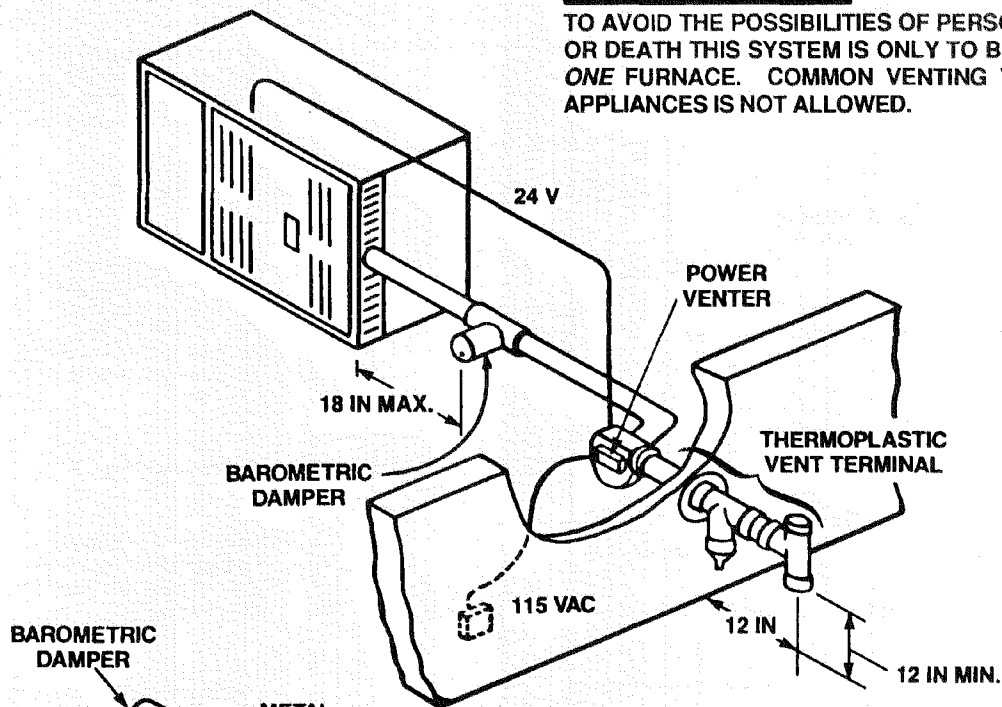
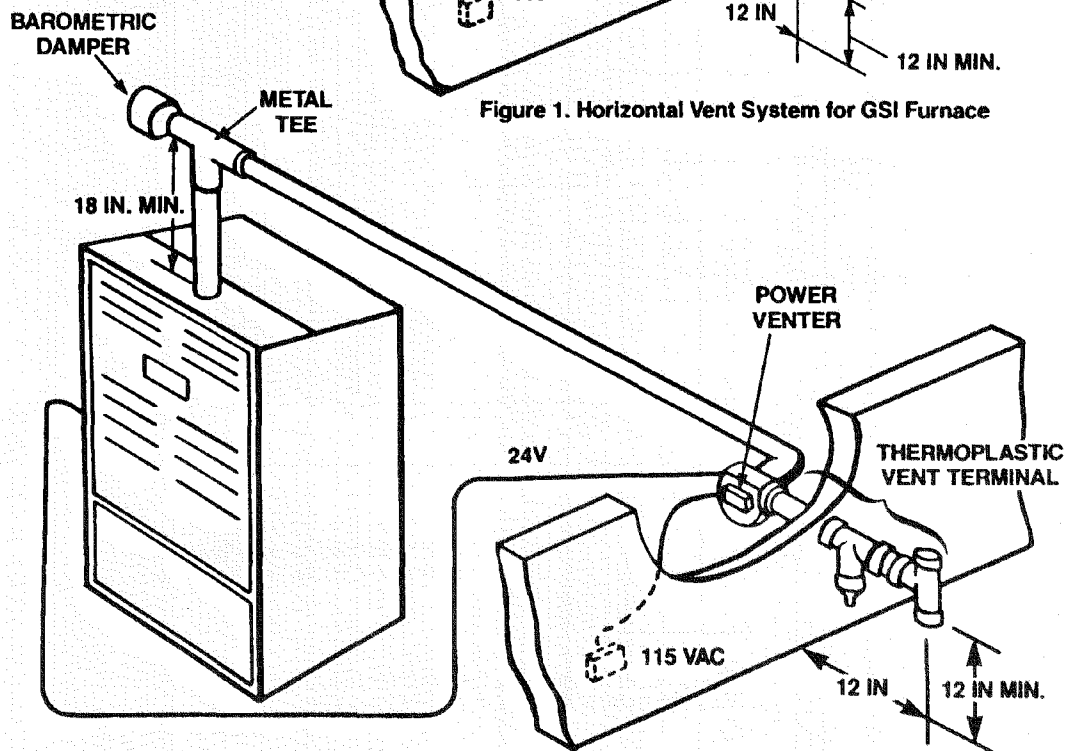

Figure 1. Horizontal Vent System for GSI Furnace
Figure 2. Horizontal Vent System for GUI/GHI Furnaces
Some installations may require this appliance to be horizontally-vented directly through a side wall. When this occurs, the instructions listed below must be followed in order to insure safe and reliable operation. A completed horizontal vent system for a horizontal furnace is shown in Figure 1, while
the upflow furnace's horizontal vent system is shown in Figure 2. When properly installed, the vent extending from the furnace to the power venter is under negative pressure, and the furnace operates as a Category I appliance.
3. Install the metal flue pipe and the single-acting barometric damper as shown in Figure 1 for horizontal furnaces or Figure 2 for upflow furnaces. The damper must connect to a horizontal tee off the flue pipe no more than 18 inches from the furnace outlet (horizontal furnaces), or at least 18 inches above the furnace outlet (upflow furnaces). Consult local building codes and manufacturers' instructions for proper installation procedures.